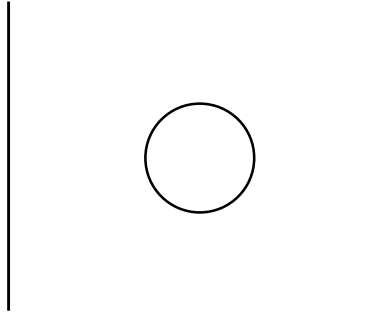

Figure 2. The first electrode geometry.
Pre-lab Question 2: Sketch a prediction of the field lines for the arrangement of electrodes shown in Figure 2. The plates are charged so that there is a potential difference of 10 V between them. The center ring is not connected to the voltage source. How does the electric field in the presence of this ring differ from the electric field of the two plates alone?
First, you will map out the equipotential lines for the electrode configuration shown in Figure 2. Make sure each group member gets experience mapping the equipotential lines with the voltmeter probe. Second, you will determine the configuration of electrodes that produces an equipotential line pattern given to you by the instructor.
- A detailed sketch of equipotential and electric field lines for Figure 2.
- Data and graph of potential vs. position for Figure 2.